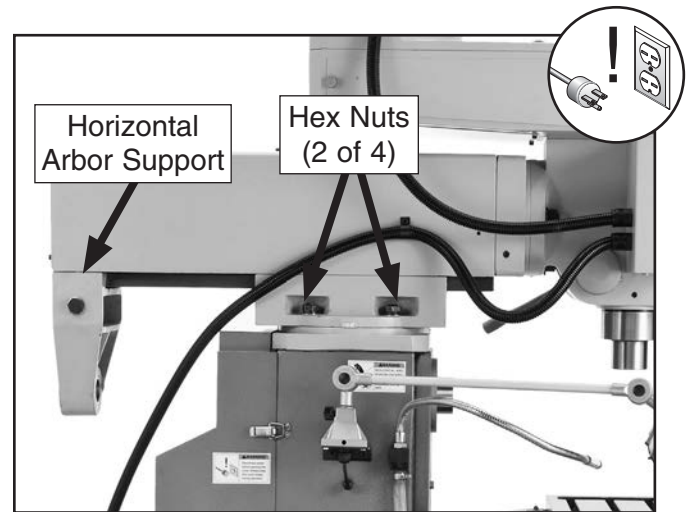

Figure 25. Ram rotation hex nuts.
2. Loosen four hex nuts (two on each side of ram) that secure ram to turret (see **Figure 25**).
- If rotating ram 180 degrees, horizontal arbor support must be removed to provide clearance for control panel and DRO (see **Figure 25**).